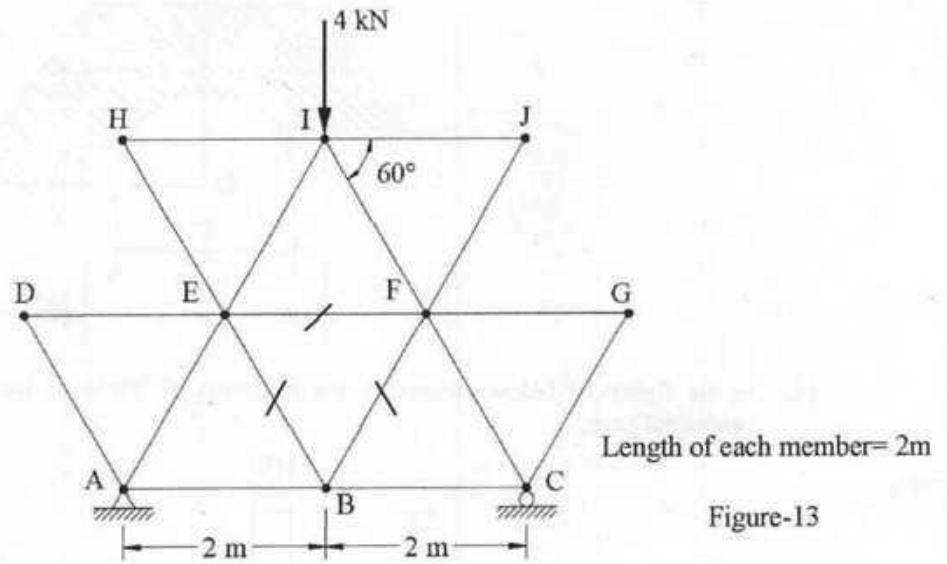

Figure-13
14. How do you identify zero-force member in truss? Identify zero-force member in the following truss and find the forces in the members BF, BE and EF [Figure-13].